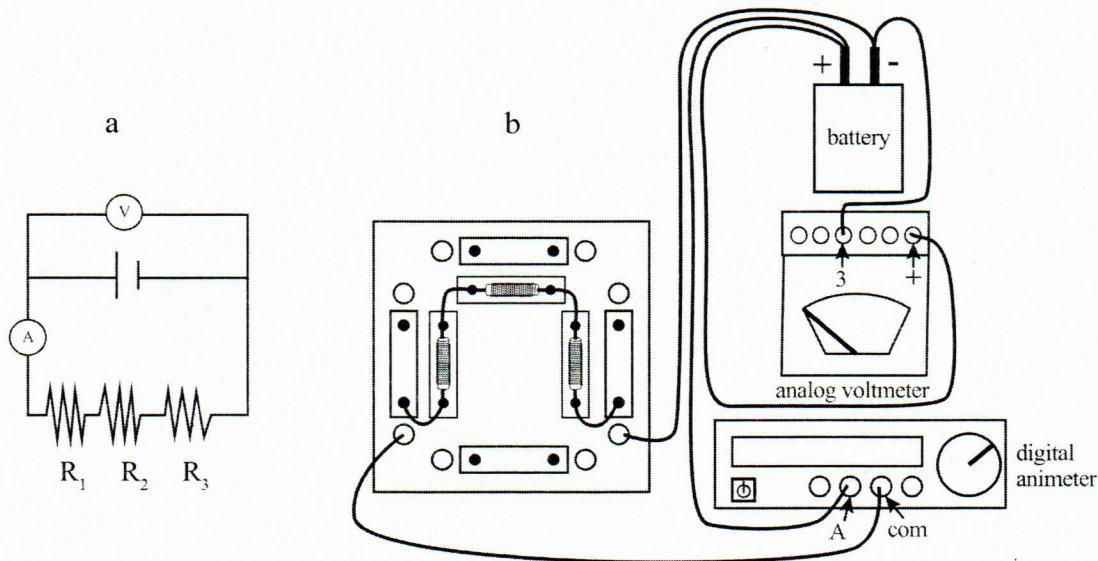

Figure 5.2 The resistors in series circuit. Figure 5.2a uses a circuit diagram. Figure 5.2b is the real-life schematic.
3. Add the battery and ammeter to the resistors in series as shown in Figure 5.2. Make sure the ammeter is dialed into an appropriate setting before turning on. Connect the second battery lead only when ready to take data. Finally add the voltmeter last by connecting the leads (wires connected to the meter) to the battery terminals. Record the current drawn from the battery and the battery potential while connected to the circuit. The settings for both the ammeter and voltmeter should be altered so that the maximum precision is obtained.